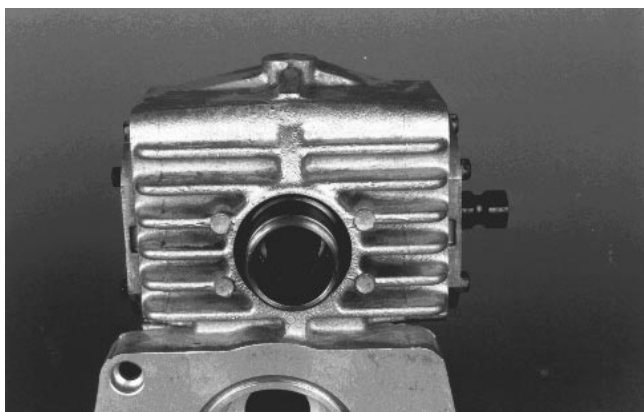

Figure 63
8. Install PTO seal guide and o-ring into housing. Install spiral retaining ring (Fig. 63).